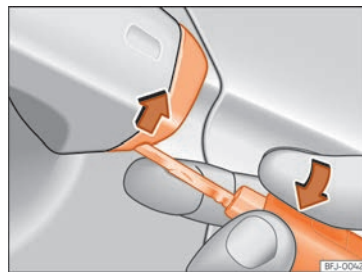

**Fig. 95** Driver door handle: lever the cover off
- Insert the key shaft into the lower opening in the cover on the driver door handle » Fig. 95 then remove the cover upwards.